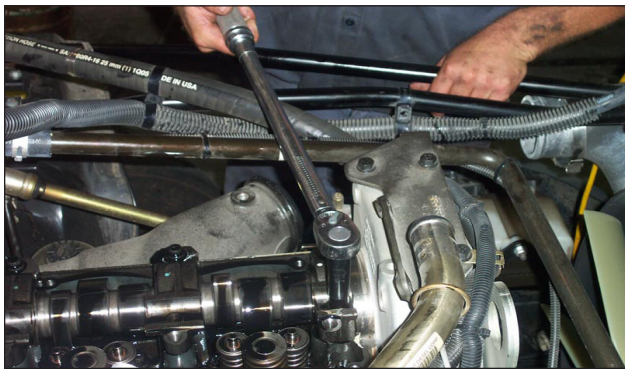

Fig 9
- a. Remove rocker arm hold down bolts M12x100 mm long (6).
- b. Remove rocker arm nuts at front and rear of head (2).
- c. Retorque rocker shaft studs located at front and rear of cylinder head at 100 lb.-ft. (136 N-m) with Kentmoore tool # J-44706A. (See Fig. 9)